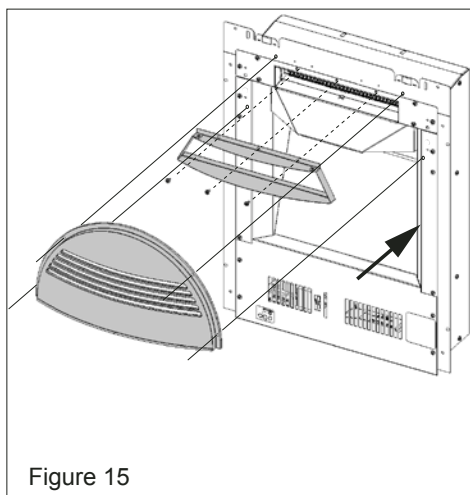

Figure 15
3. Install the hood baffle and the arch hood provided on the heater with screws provided—see figure 15.